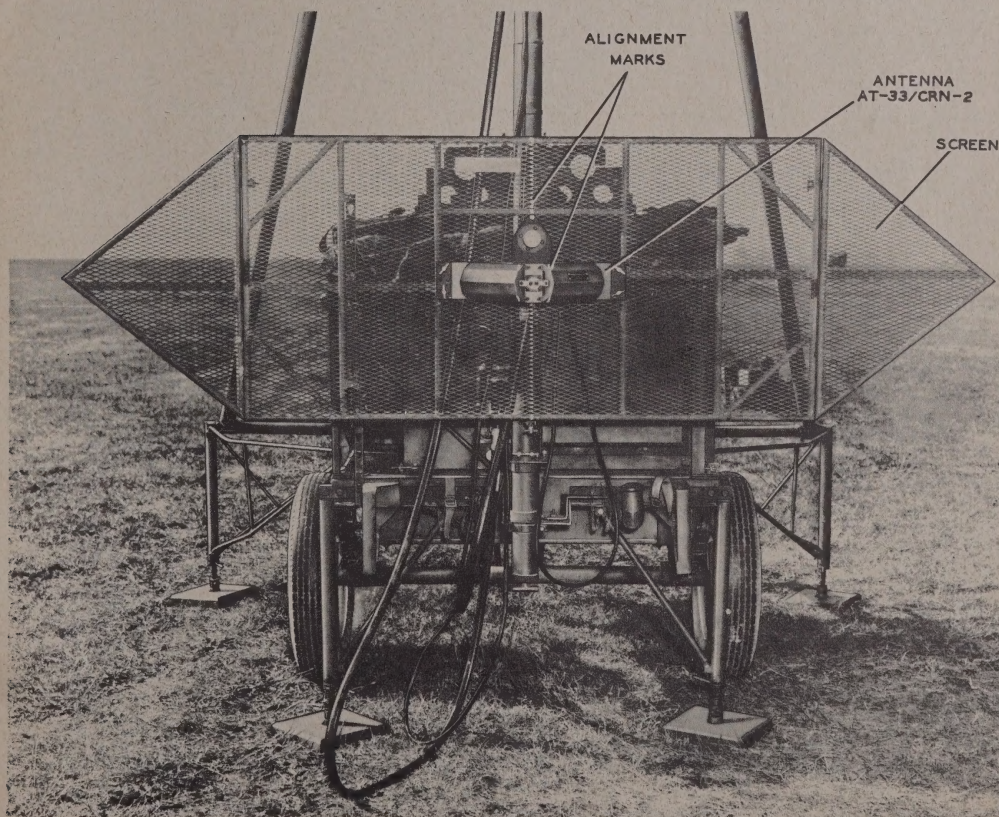

Figure 2-8. Radio Set AN/CRN-2—Antenna Mast End
(12) Assemble the screen and mount the lower antenna to it. (See fig. 2-8.)
(13) Connect the lower antenna cables to the trailer first and then connect them to their proper position behind the lower antenna screen. Socket for the antenna cable is found on the trailer in back of the mounted screen and labeled "SOCKET FOR LOWER ANTENNA CABLE."
(14) Set the screen into place on the lower mast bracket. (See fig. 2-8.)
(15) Line the entire trailer so that the screen is perpendicular to the runway.
(16) Attach the mast level provided in the spare
(1) To line up the upper and lower antennas accurately, stand 10 paces in front of the trailer and sight upon the white marks on the lower antenna and screen. (See fig. 2-8.)
(2) Move away from the runway until one of the marks on the lower antenna appears to be exactly in line with the mark on the screen.
(3) Then sight upon the upper antenna and have a